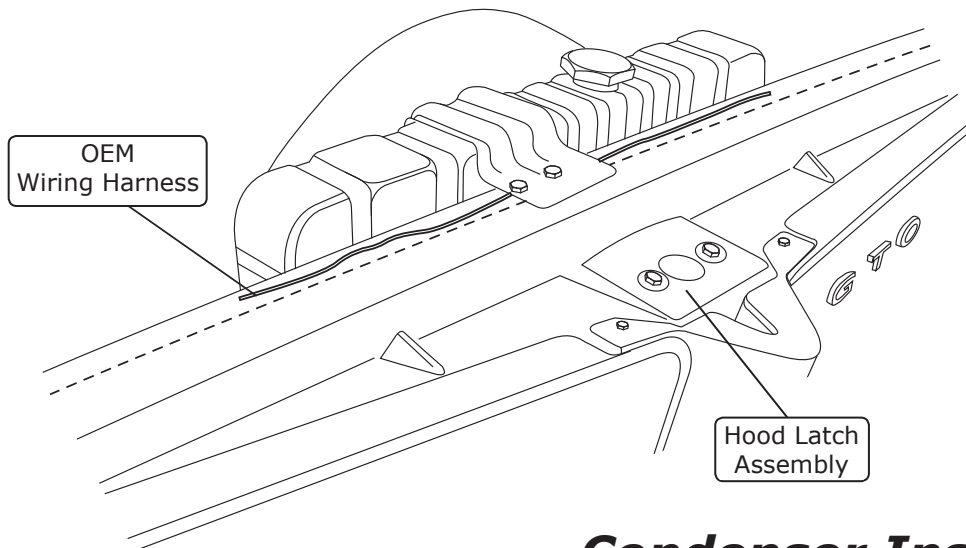
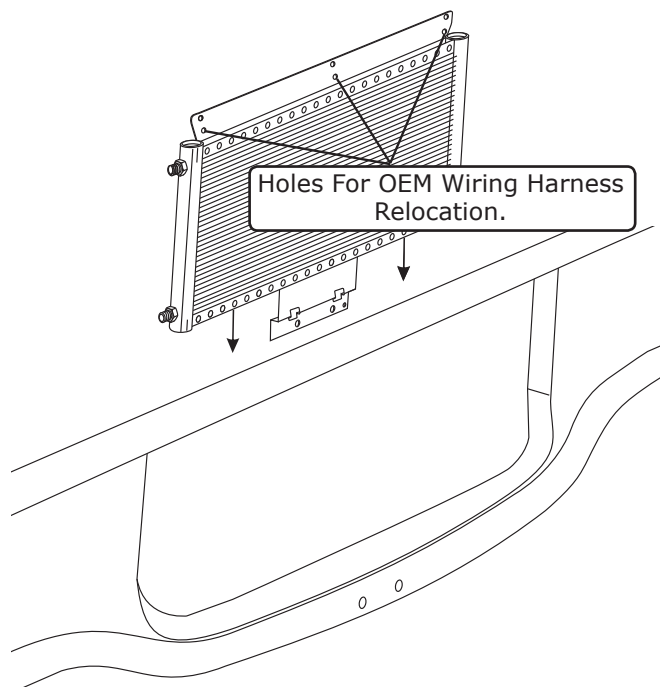

Figure 4
Figure 5
4. Remove the hood latch assembly (See Figure 4, below).
1. Install the condenser as shown in Figure 5, below. **NOTE: When installing the condenser, the OEM wiring harness located on the inside of the core support (See Figure 4, above) will need to be relocated to the holes shown in Figure 5, below.**